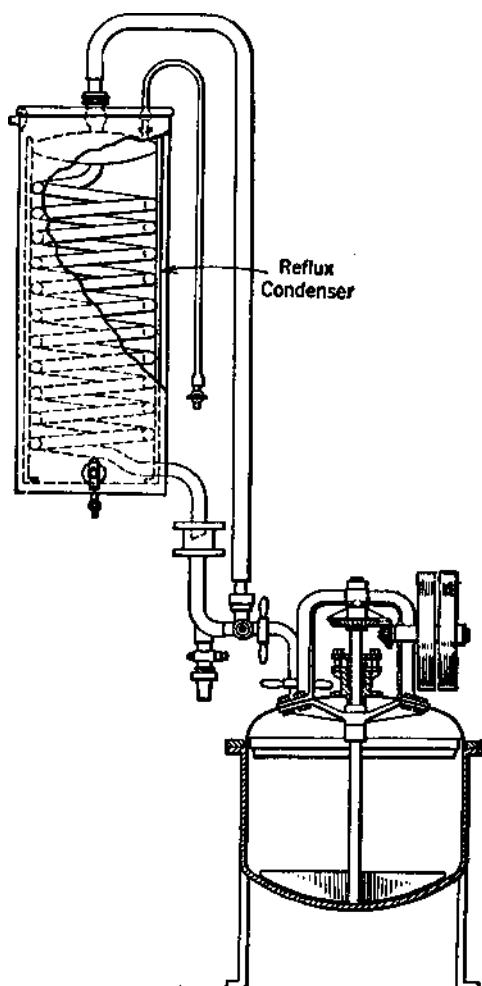

FIG. 48.—Still with Reflux Condenser.
16. From a study of the industrial apparatus in Fig. 48, indicate the corresponding parts of the **laboratory** apparatus in Fig. 22.